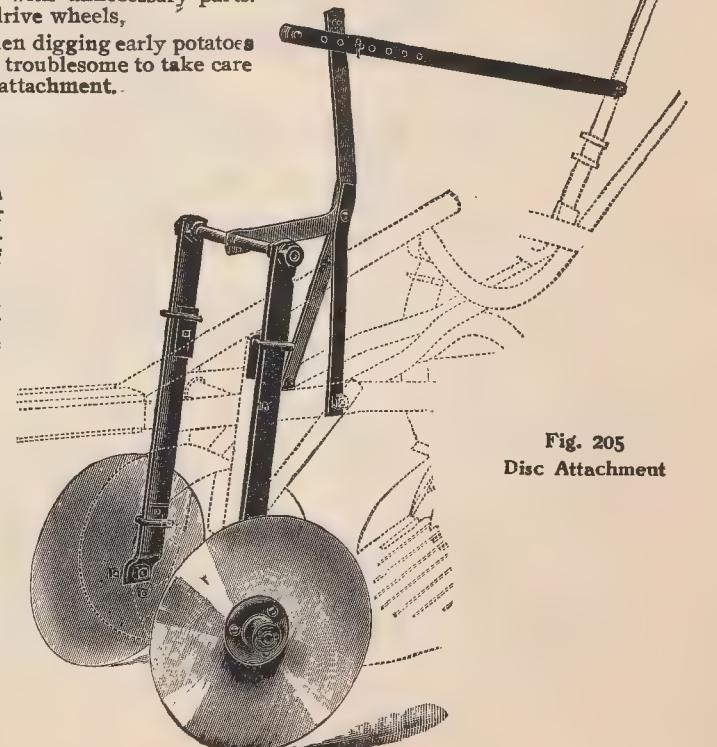

Fig. 205
Disc Attachment, as shown in Fig. 205 . . .	" " 70 " . . .
The Roller is 14 inches in diameter, 8 inches in width and the tire is concave. As the roller passes over the vines they are crushed and easily kept in a desired shape for the most satisfactory digging. This gives us full control immediately—the vines being straightened and flattened before the hill of potatoes is lifted and carried on the cradle. Where the vines are exceedingly large or a very grassy condition prevails a pair of discs may be applied to the wheel standards as shown in Fig. 205, and satisfactory work performed.
**Disc Attachment, Fig. 205.**—When digging early potatoes and the vines are extremely large and troublesome to take care of, we recommend the use of our disc attachment.